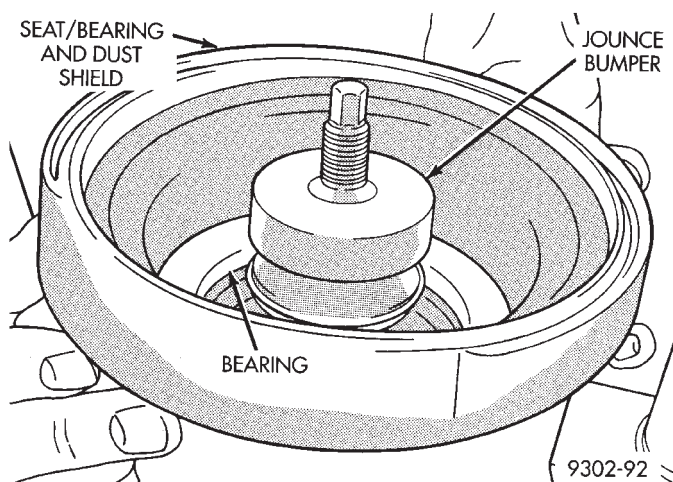

Fig. 4 Jounce Bumper and Seat/Bearing And Dust Shield
(6) Remove the jounce bumper and the seat/bearing and dust shield as an assembly, from the strut assembly (Fig. 4).